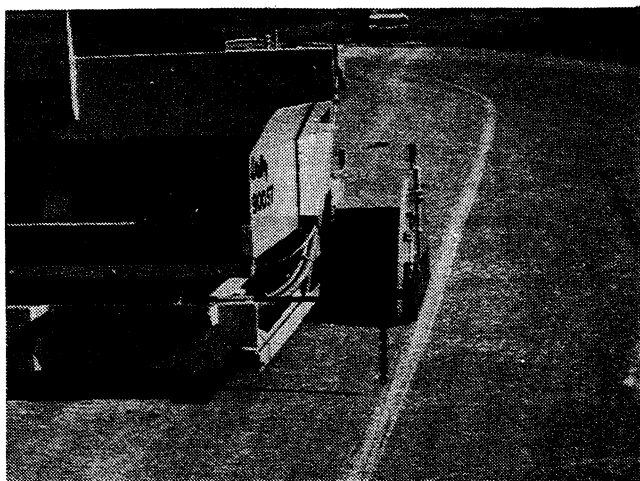

Figure 4-5 – Steering Gauge
- B. Make sure to use a reference guideline. This can be a curb, gutter, adjacent mat or a string line. *It is important that the first pass be straight as it will be the guideline for the following passes.* Use the steering gauge as shown in Figure 4-5.